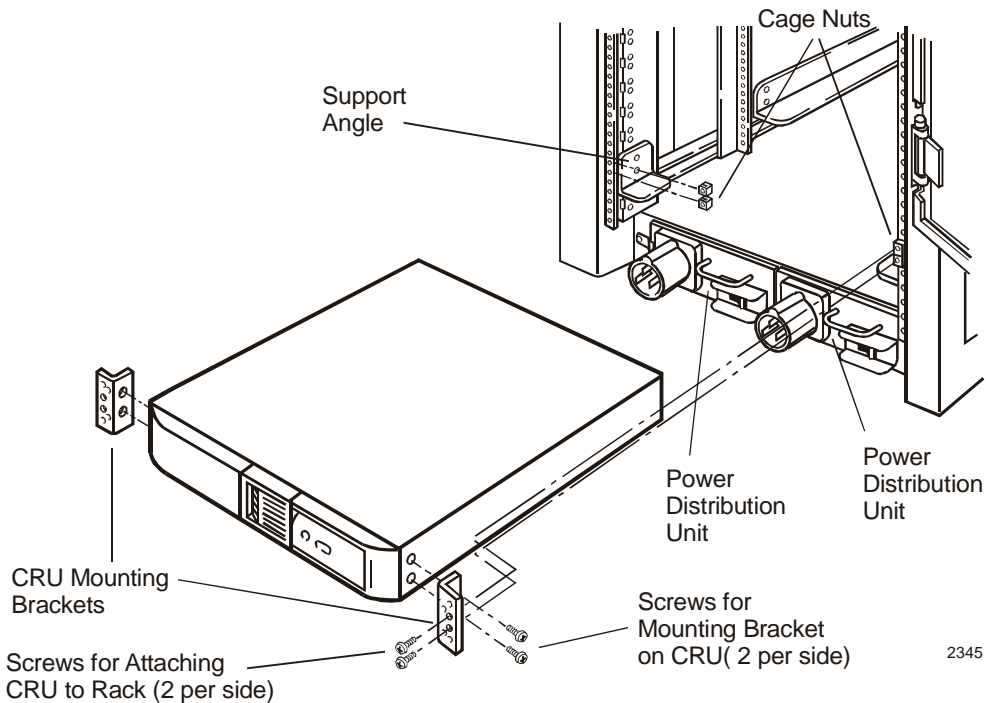

Figure 7. Installing a CRU
2. Install mounting brackets on both sides of the CRU as shown in Figure 7. (Instructions are contained in the CRU install kit.)
4. Using the CRU install kit, insert four cage nuts (two nuts on each side of the rack) above the support angles over the power distribution units. Align the cage nuts with the screw slots in the CRU mounting bracket. See Figure 7.